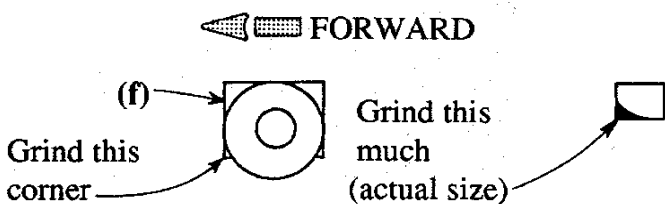

fig. 2
STEP 5 Remove the brake cam (f) and file or grind the FORWARD-INSIDE corner round, as shown in fig. 2, the full length from top to bottom for clearance between the cam (f) and steel brake shoe (a). (That is, with the flat, non-rounded side of the cam facing you, file the entire LEFT SIDE CORNER nearest you.) This is necessary because otherwise if the servo moves the cam arm (q) to its release position, it will again apply the brakes.